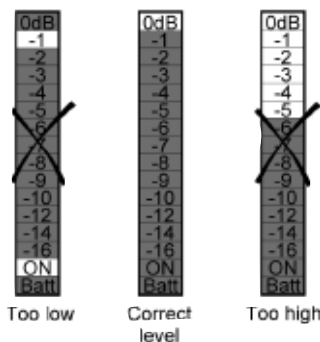

Figure 5. Adjusting the subwoofer levels for a  $0\text{dB}$  peak
Press **Play ▶**. As Track 3 plays, watch the RSLM carefully. Watch for peak readings. The peak reading may be no more than a brief flash. Readjust the subwoofer's **Level control ⑥** until the peak level observed is  $0\text{dB}$  without triggering the over-range indication. See Figure 5.